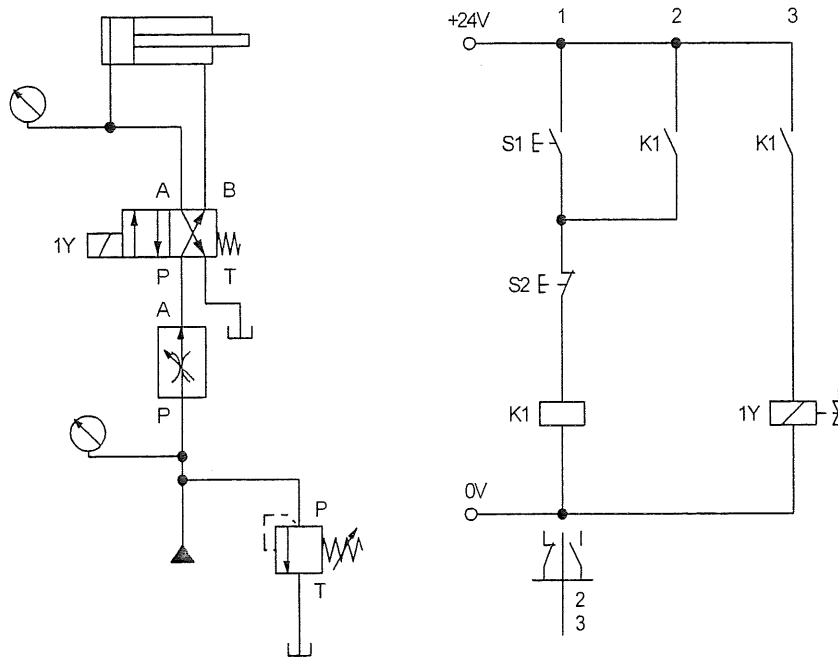

Figure 2
b) Figure 2 below shows an electro hydraulic circuit for a particular system. Analyze this circuit by giving a step by step explanation on what will happen to the relay coils, contact, valve and actuator when S1 and S2 button is pressed.